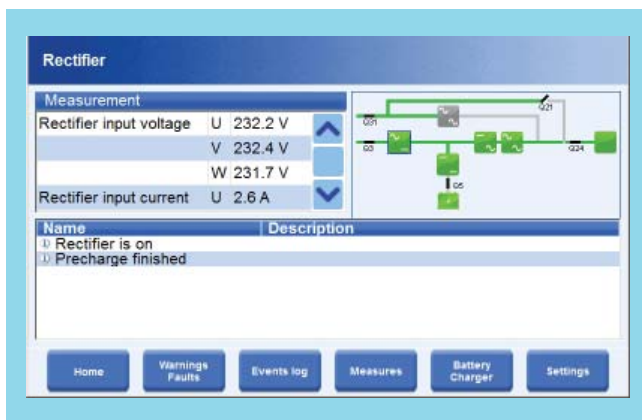

Figure 8: Block status information page (Rectifier example)
- An example is provided on Figure 8.